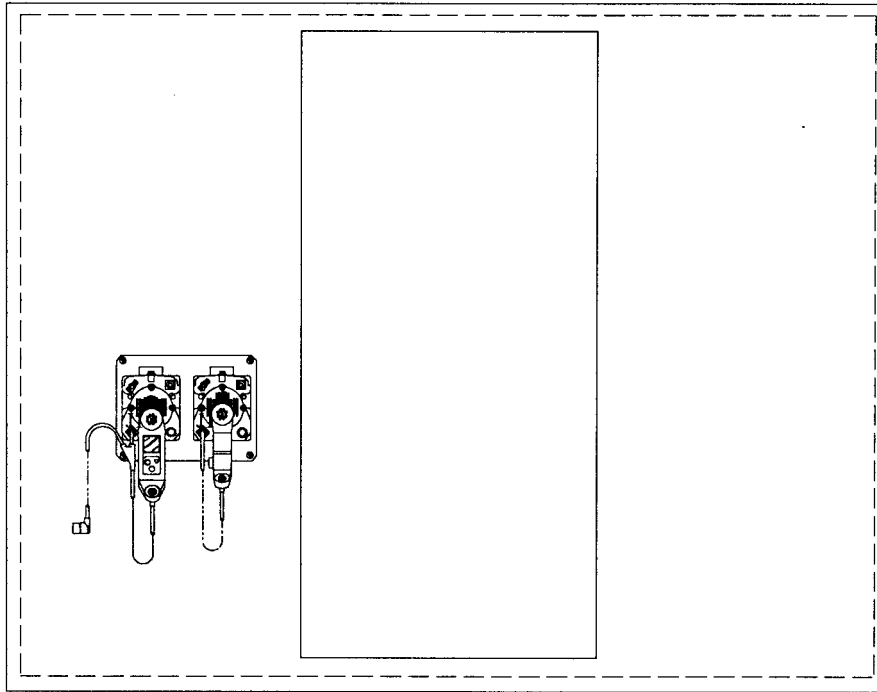

Figure 1-14. RRA Mounted on LMS Rear Wall Exterior
- (b) The RRA is removed from side of rear control panel by unscrewing four knurled-head screws and repositioned on rear wall of LMS as shown in figure 1-14.